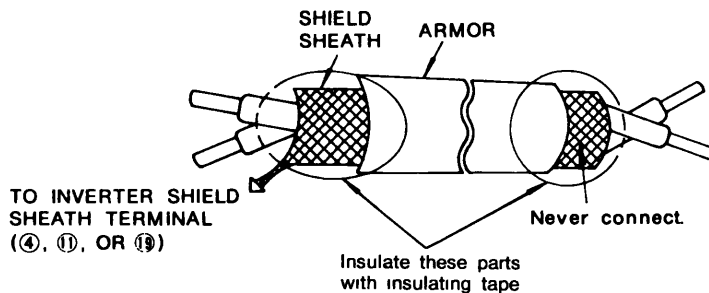

Fig. 8 Shielded Lead Termination
(2) Control circuit leads
Use the twisted shielded or twisted-pair shielded lead for the control circuit line and connect the shield sheath to the any of the inverter terminals ④, ⑪, or ⑱. See Fig. 8.